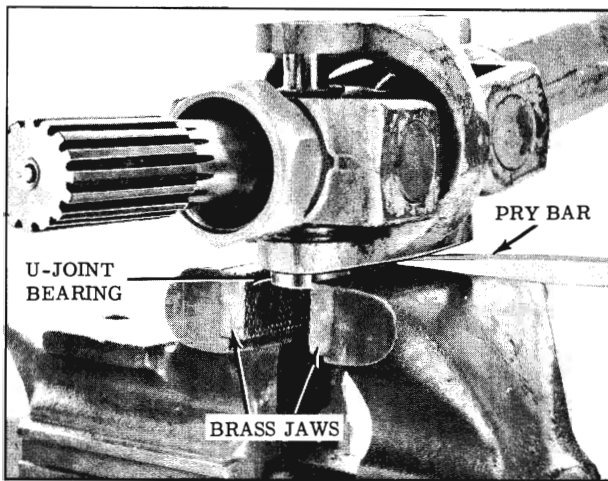

Fig. 6-149 Removal of "U" Joint Bearing
4. Clamp the partially exposed bearing in a brass jawed vise, then tap or pry yoke upward (Fig. 6-149), until bearing is removed. Remove bearing from vise.